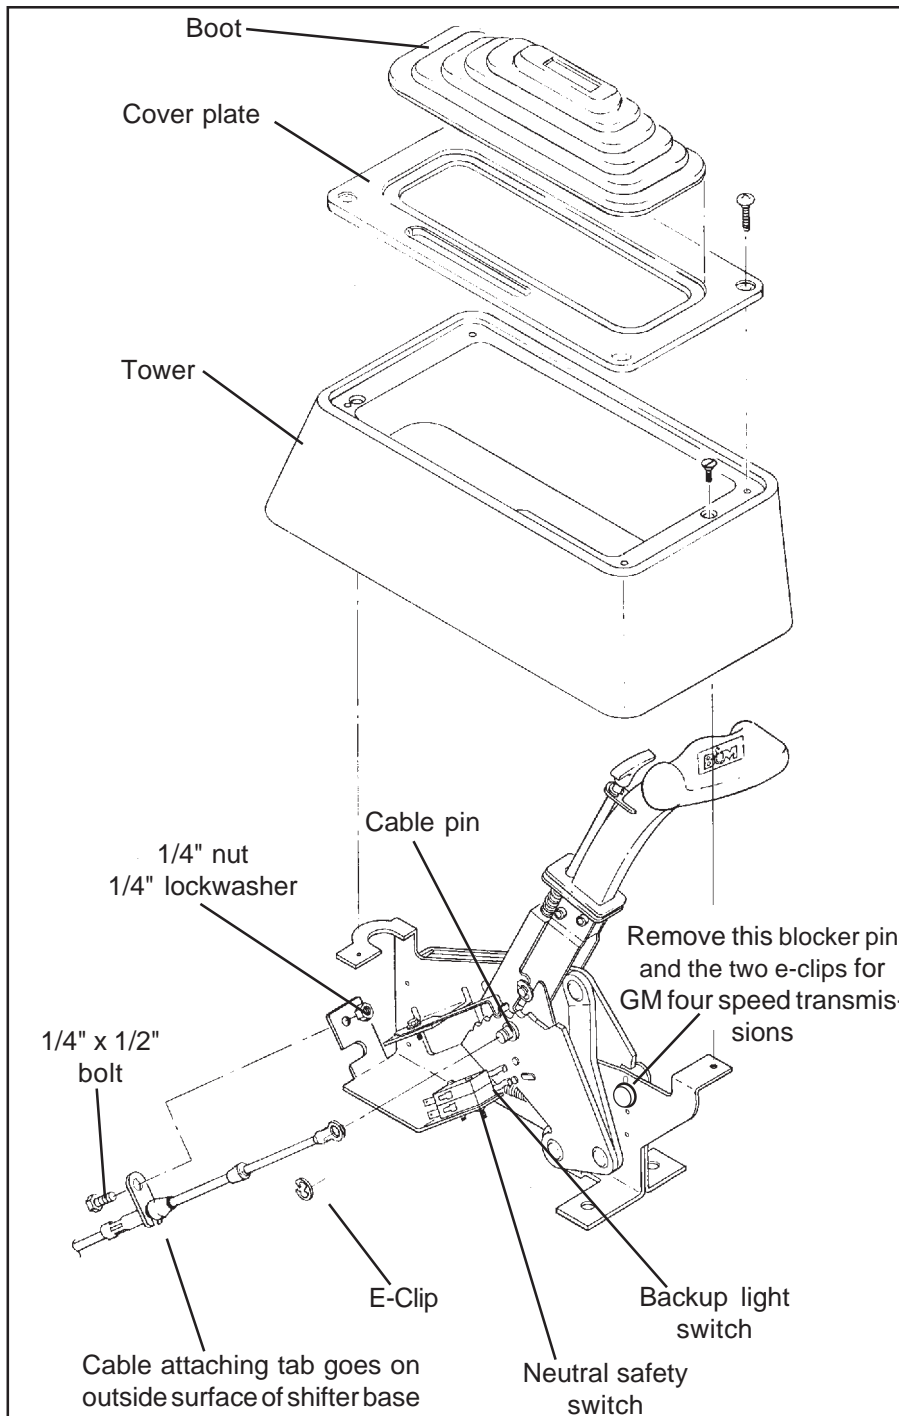

Figure 1
NOTE: If you are installing this shifter with a four speed automatic transmission, you must remove the blocker pin and the two e-clips indicated in **Figures 1 and 3.** Removing this blocker pin gives the shifter four forward positions rather than three. For Ford AOD four speed transmissions do **not** remove this blocker pin and the two e-clips, since this transmission has only three forward positions. Also do **not** remove the blocker pin and the two e-clips for three speed automatic transmissions.
STEP 4. Install (but do not secure) the carpet back to its original position. Cut holes in the carpet for the mounting holes and the cable. **DO NOT** use a drill bit to make holes in the carpet. **STEP 5.** Assemble the neutral safety and the reverse light switches to the bracket using two #4-40 x 1" screws and nuts, as shown in **Figure 1**. **Beware**, over tightening the switch attachment screws will crack the switch housings. Install the switch assembly on the shifter. To adjust the switches, loosen the screws and slide the
STEP 6. Install the cable on the shifter as shown in **Figure 1**. The cable attachment tab should be bolted to the outside surface of the shifter base using a 1/4" x 1/2" hex bolt, lock washer and nut. Install the e-clip that secures the cable to the cable pin.
wires to the **UPPER** switch (See Figure 1). Tape the terminal connections to prevent shorts. Reconnect the battery ground cable, disconnect the coil wire and set the parking brake. Check the switch operation by attempting to start the motor in each shifter position. **The starter must crank only when the shifter is in the Park or Neutral position.** Check the backup light operation when the shifter is shifted to the Reverse position. Adjust the switches if required. Reconnect the coil wire. Go to **Step 27**.
'66-'68: The neutral safety switch will continue to function normally. It will not be necessary to hook up the neutral safety switch wires on the shifter. Disconnect the battery ground cable before wiring the backup light switch. Locate the original backup light switch on the steering column or the console shifter. Run these wires to the top switch on the **B&M Megashifter (See Figure 1)**. Reconnect the ground wire and check the light for proper operation.